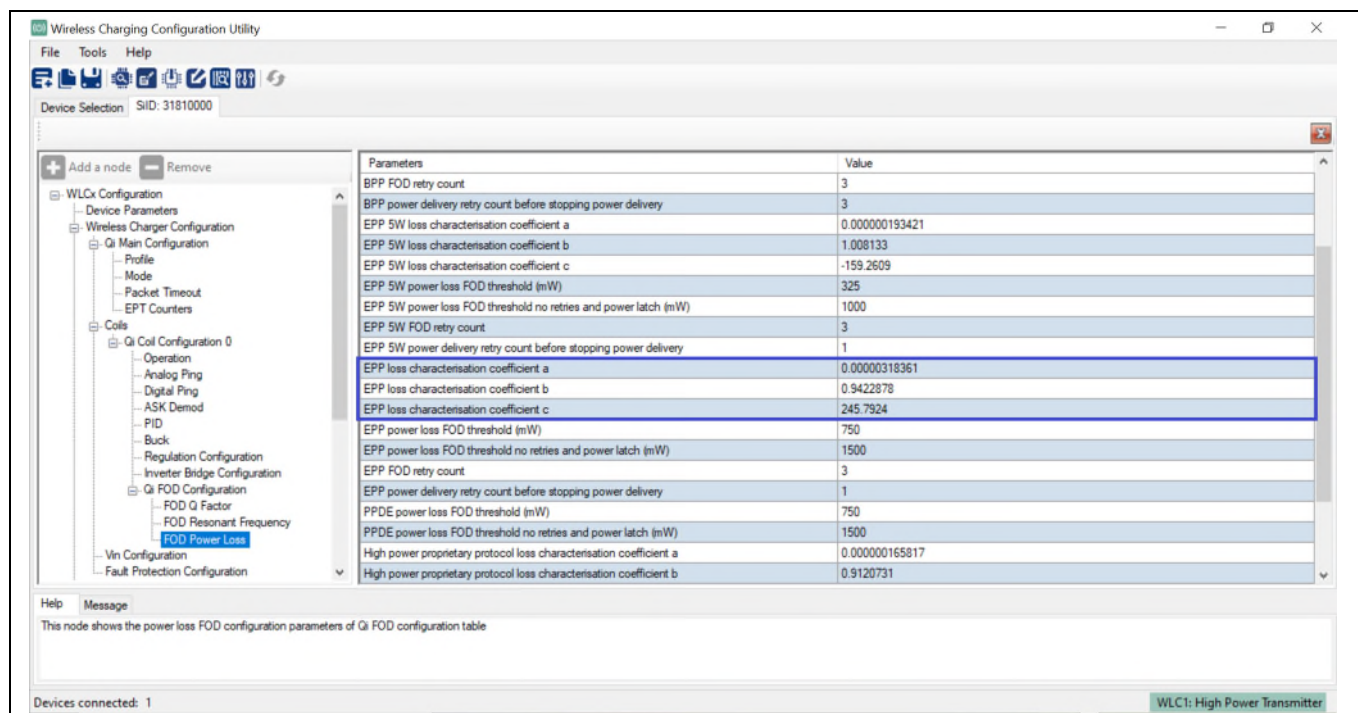

Figure 31 Parameter update in flash through static parameter tuning interface
18. Update the copied co-efficients at the appropriate textboxes of the static configuration as shown in Figure 31.